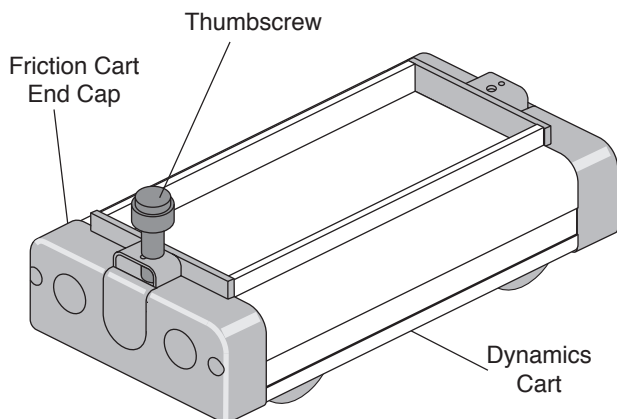

Figure 3 Thumbscrew Assembly
- ④ Install the 1/4-20 X 5cm thumbscrew into the Friction Cart End Cap as shown in Figure 3.
- ⑤ Adjust the thumbscrew to vary the friction applied to the Dynamics Cart.